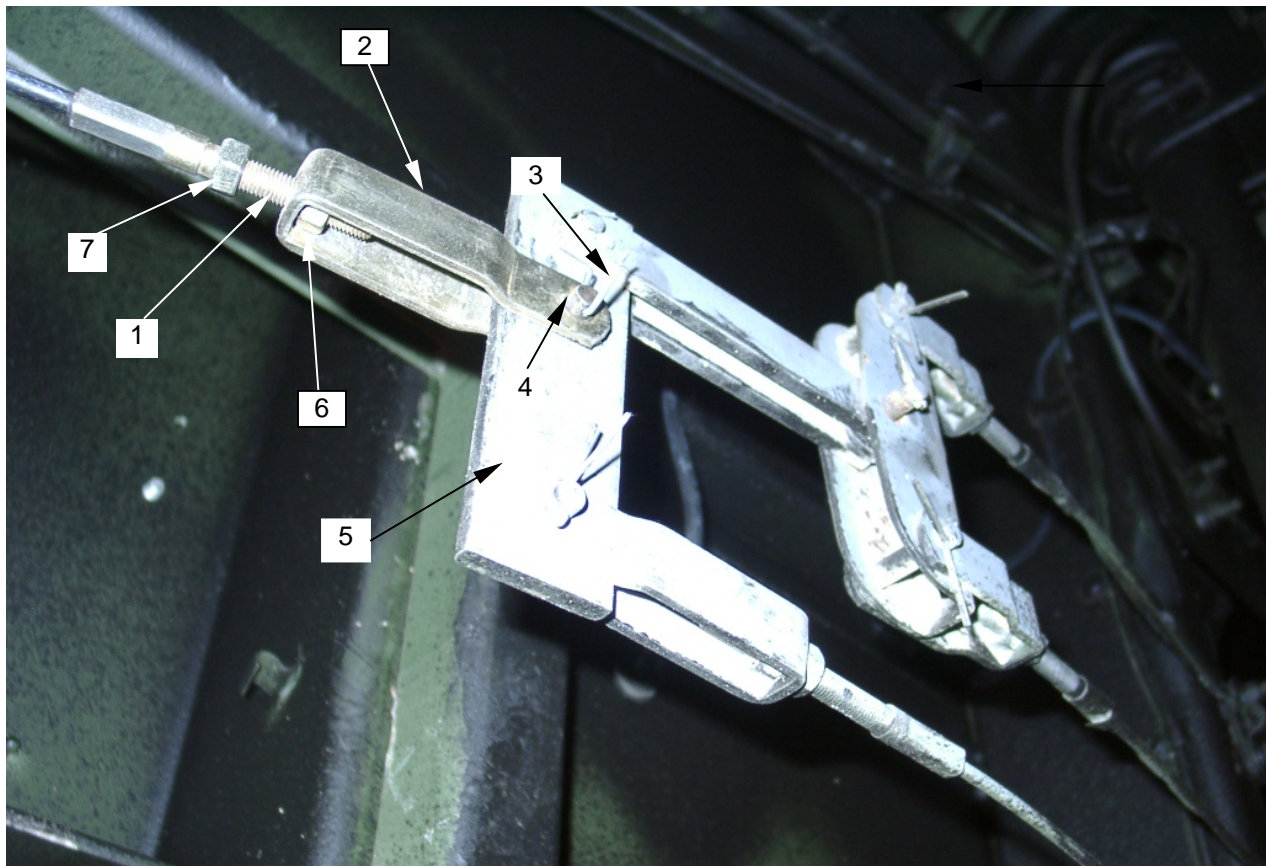

Figure 2. Collective Brake Adjustment
- a. Locate threaded end of brake cable (**figure 2, item 1**) and cable clamp (**figure 2, item 2**).
- b. Remove the cotter pin (**figure 2, item 3**) holding the retaining pin (**figure 2, item 4**) and cable clamp (**figure 2, item 2**) to the spreader bar (**figure 2, item 5**).
- c. Remove the cable clamp (**figure 2, item 2**) from the spreader bar (**figure 2, item 5**). Turn the adjusting nut (**figure 2, item 6**) to the right to tighten the brakes or to the left to loosen the brakes.
- d. Secure the cable (**figure 2, item 1**) to the cable clamp (**figure 2, item 2**) by tightening the adjusting nut (**figure 2, item 6**) and brake cable lock nut (**figure 2, item 7**).
- e. Connect the cable clamp (**figure 2, item 2**) to the spreader bar (**figure 2, item 5**) with the retaining pin (**figure 2, item 4**).
- f. Fasten retaining pin (**figure 2, item 4**) in place with cotter pin (**figure 2, item 3**).